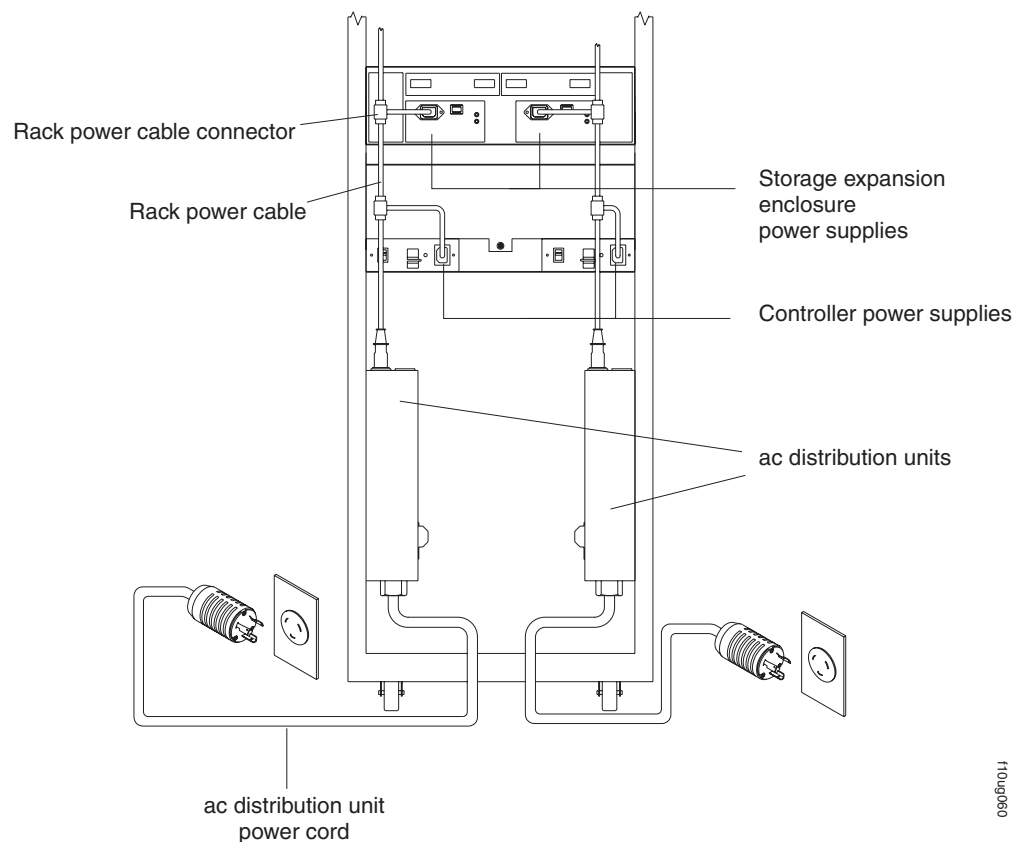

Figure 72. Redundant ac power connections to controllers and storage expansion enclosures
See Figure 72 for an example of redundant power cabling.
- To maintain power redundancy, plug the storage subsystem's right and left RAID controller units into two independent external power circuits through ac distribution units inside a rack cabinet or directly into external receptacles. Similarly, the right and left power supplies of the DS4000 storage expansion enclosures attached to the DS4800 should be plugged into the same two independent external power circuits as the DS4800. This ensures that the DS4800 and all its attached storage expansion enclosures will have power if only one power circuit is available. In addition, having all the right or all the left power cables plug into the same power circuit will enable the components in the storage subsystem to power on simultaneously during an unattended restoration of power. See Figure 72 on page 101 for an example of redundant power connections.